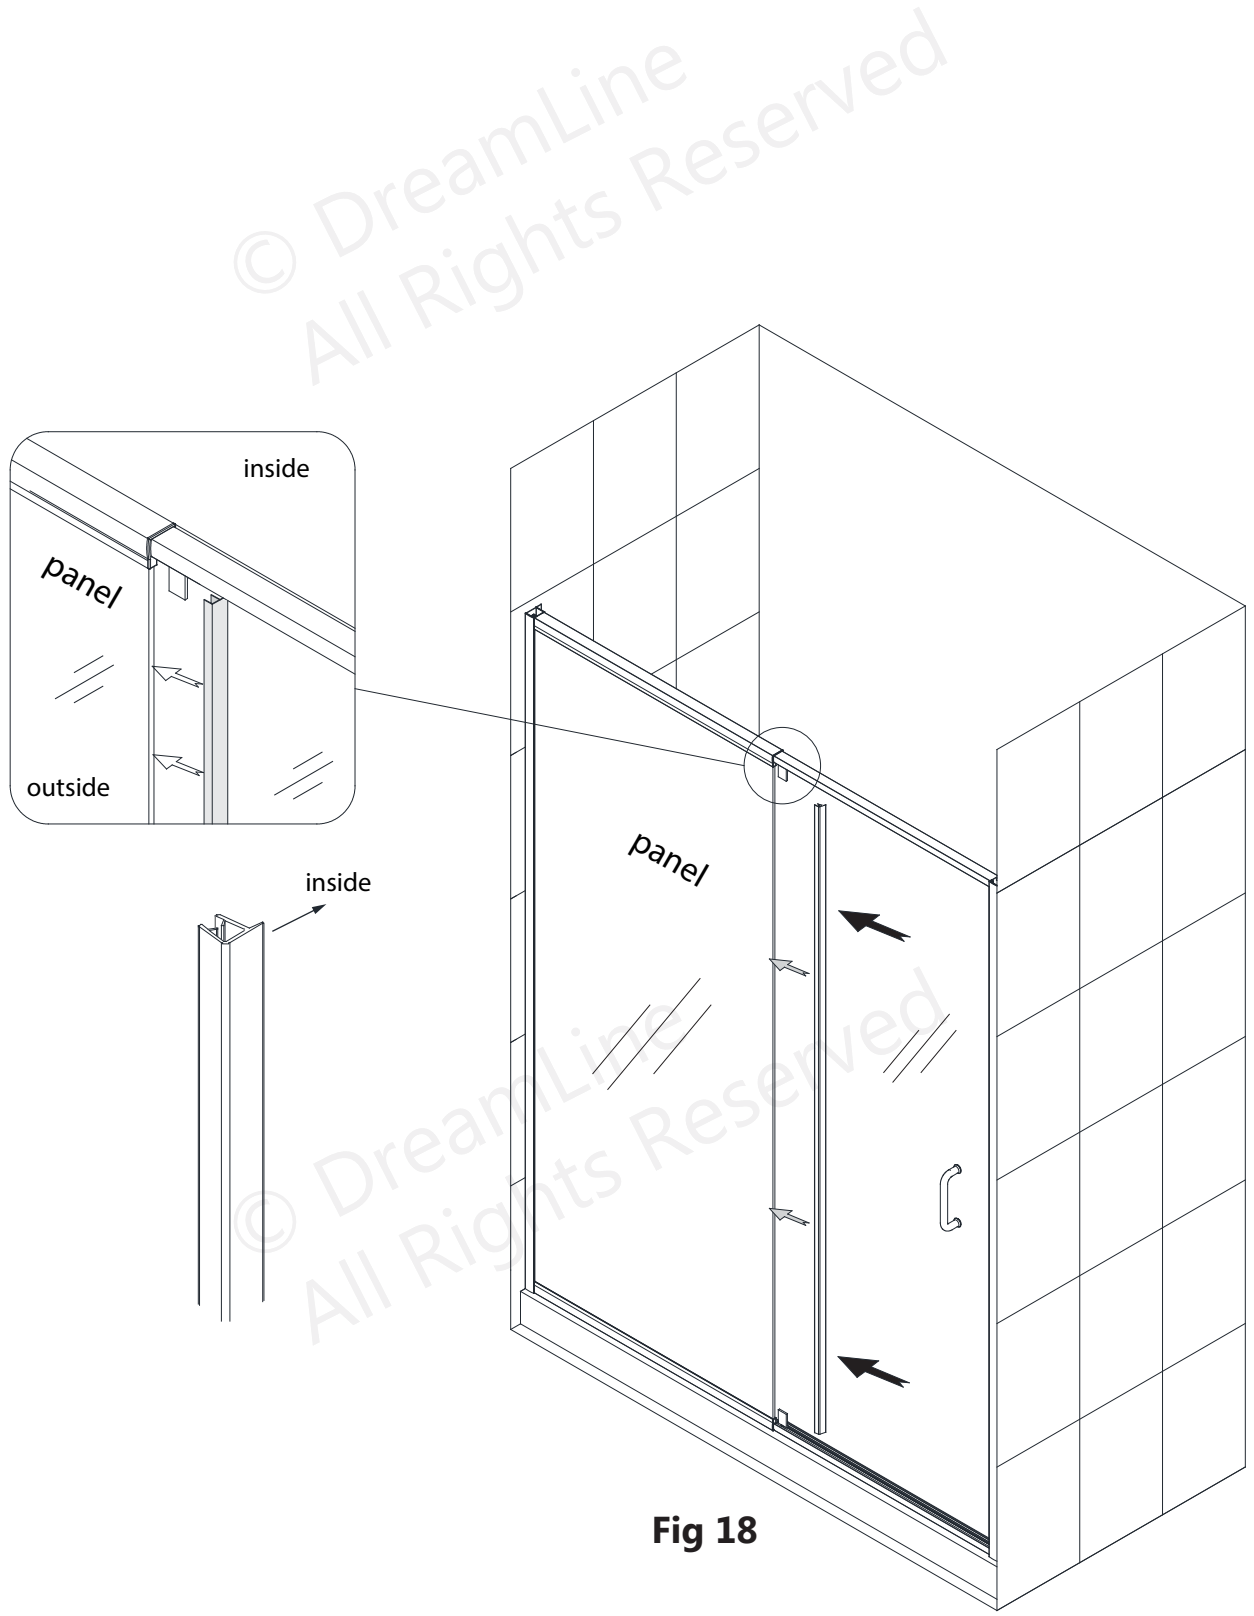

Fig 18
18. Attach the **Vinyl Seal with Flexible Fin (#07)** to the vertical edge of the **Stationary Panel Glass (#02)** with the flange facing into the shower. (**Fig 18**)